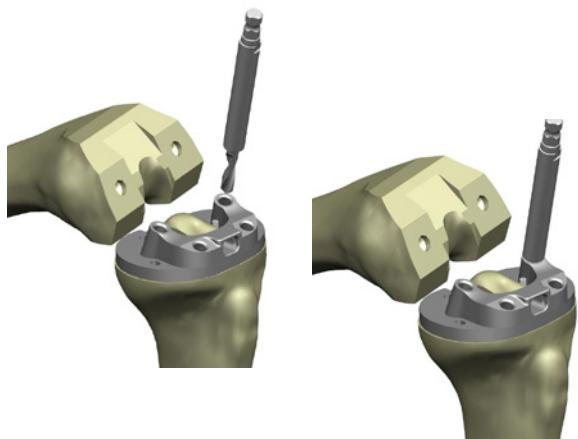

Figure 44
- 4 Once the drill guide is firmly seated flush to the tibial punch guide, prepare the tibia for the lugs by drilling the two anterior holes first and then the two posterior holes second (Figure 44).